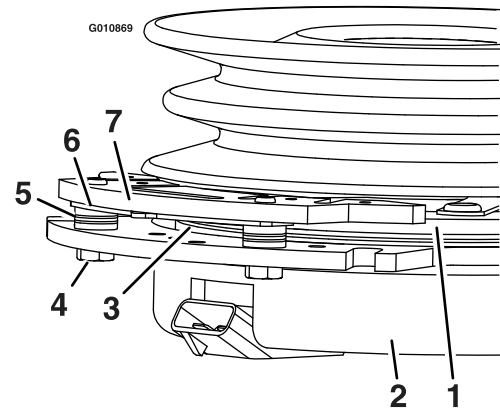

**Figure 65**
3. Remove the dust cap from caster and tighten the locknut (Figure 65).
4. Tighten the locknut until the spring washers are flat, and then back off a 1/4 turn to properly set the preload on the bearings (Figure 65).
**Important:** Ensure that the spring washers are installed correctly as shown in Figure 65.
5. Install the dust cap (Figure 65).